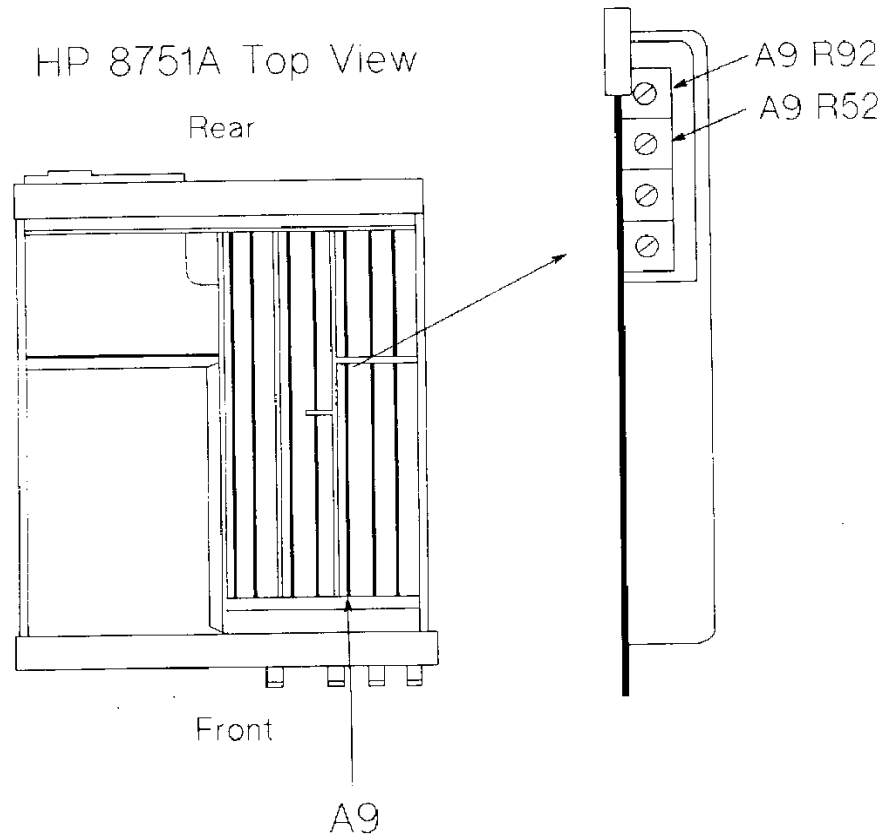

Figure 1-2 Input-R 2nd IF Mixer Tracking Adjustable Component
5. Adjust A9R52 until the trace is 0 \pm 0.5 deg (The current scale must be 0.5 deg/div.). A9R52's location is shown in Figure 1-2.
7. Adjust A9R92 until the trace is 0 \pm 0.1 dB. (The current scale must be 0.1 dB/div.). A9R92's location is shown in Figure 1-2.